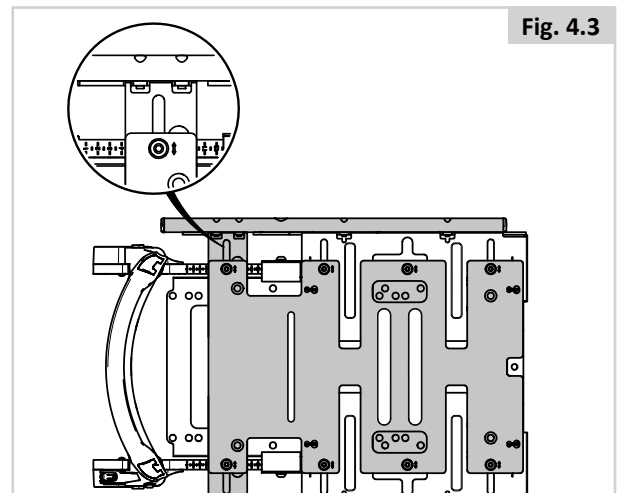

Fig. 4.3
- Mount extra seat depth mounting plate from SD 530 mm for more stability of the long seat rail Fig 4.3.